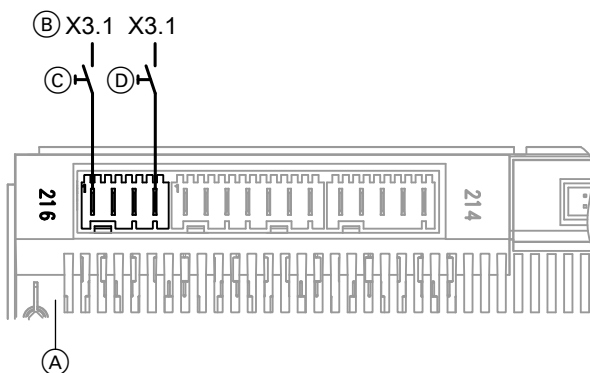

Fig. 49
- To the heat pump control unit as shown in Fig. 49